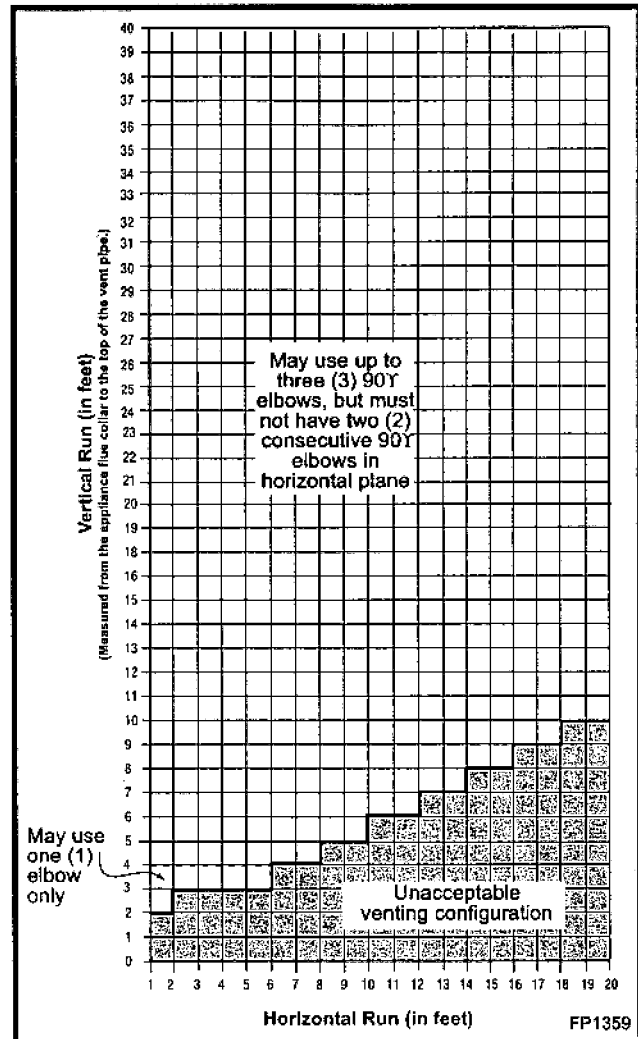

Fig. 15 Horizontal vent termination window.
The vent must rise vertically a minimum of 24" (610mm) off the top of the unit, before the first elbow. The horizontal run may extend up to 20' (6m) and include a vertical rise of up to 40' (12m). (Fig. 15) Horizontal termination must also meet the criteria shown in Figures 12 & 13.
- Approved vent systems must terminate above and including the heavy line in Figure 15.
- With a rise between 2' - 4', one (1) 90° or two (2) 45° elbows may be used.